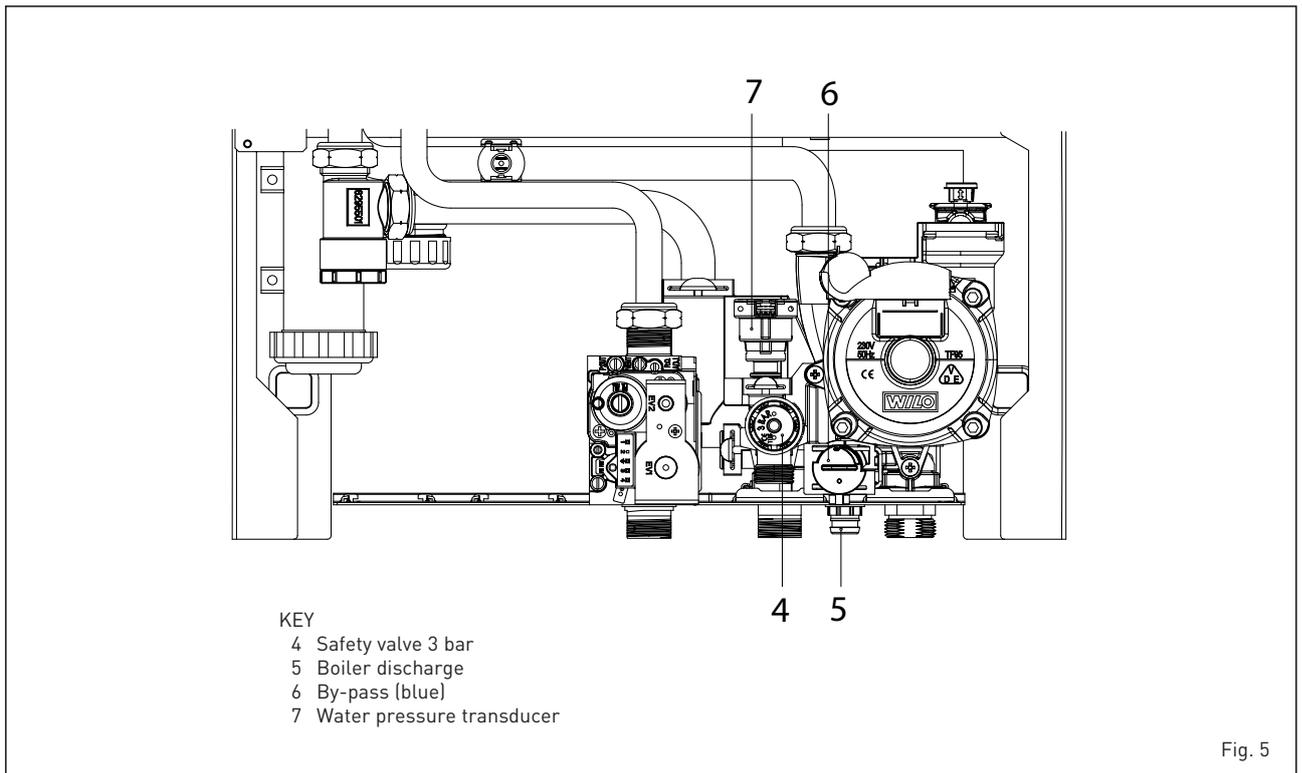

Fig. 5
2.4 INITIAL PHASE SYSTEM FILLING (fig. 5)
2.4.1 System draining (fig. 5)
isolate the flow and return, and use the boiler drain vent (5 fig. 5).
2.4.3 Requirements for sealed water systems MURELLE HE 35 R (fig. 5/b)